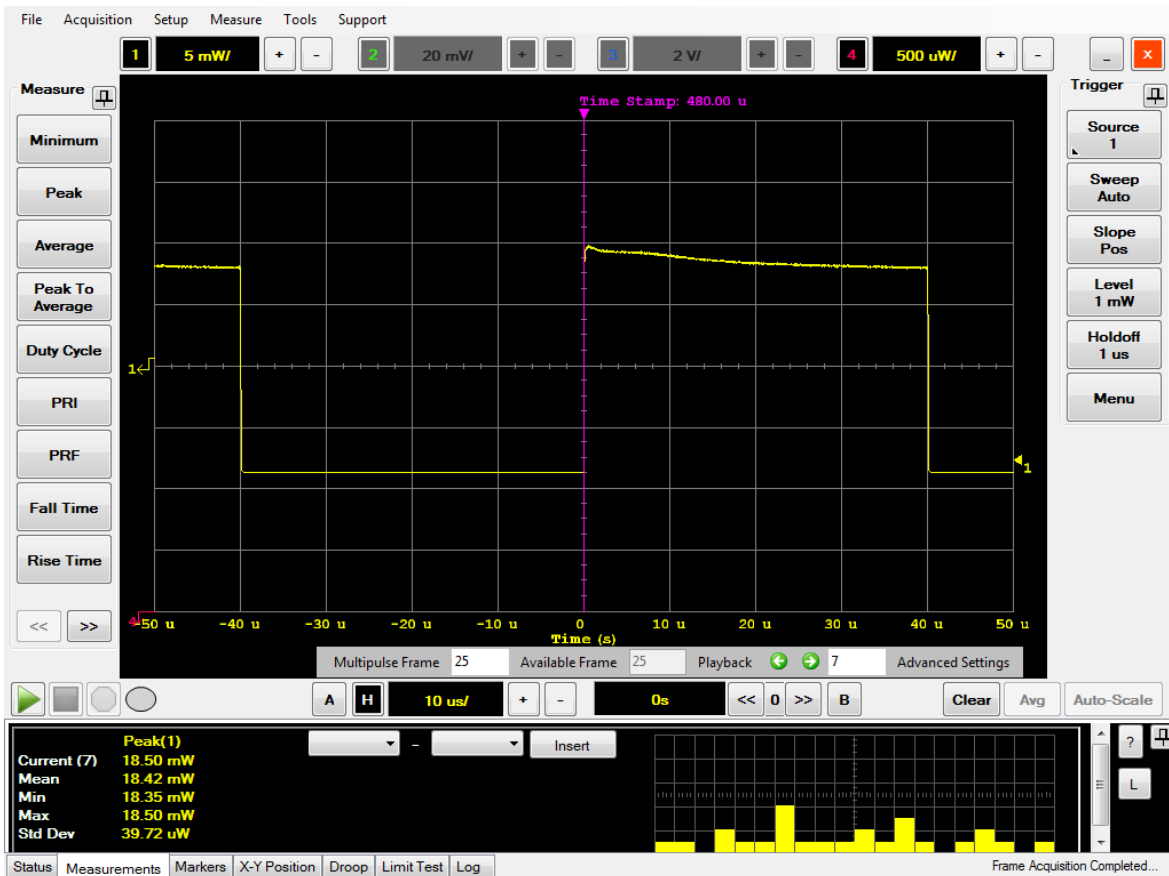

Figure 2-91 Multipulse display
- 5 An example of the multipulse display is as shown in Figure 2-91.